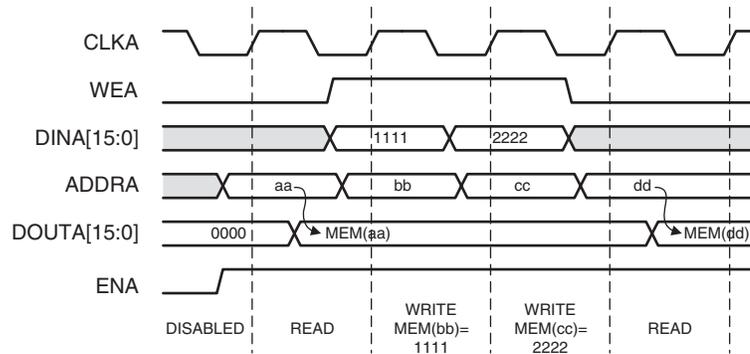

Figure 11: No Change Mode Example
- **No Change Mode:** In NO\_CHANGE mode, the output latches remain unchanged during a write operation. As shown in Figure 11, the data output is still the previous read data and is unaffected by a write operation on the same port.